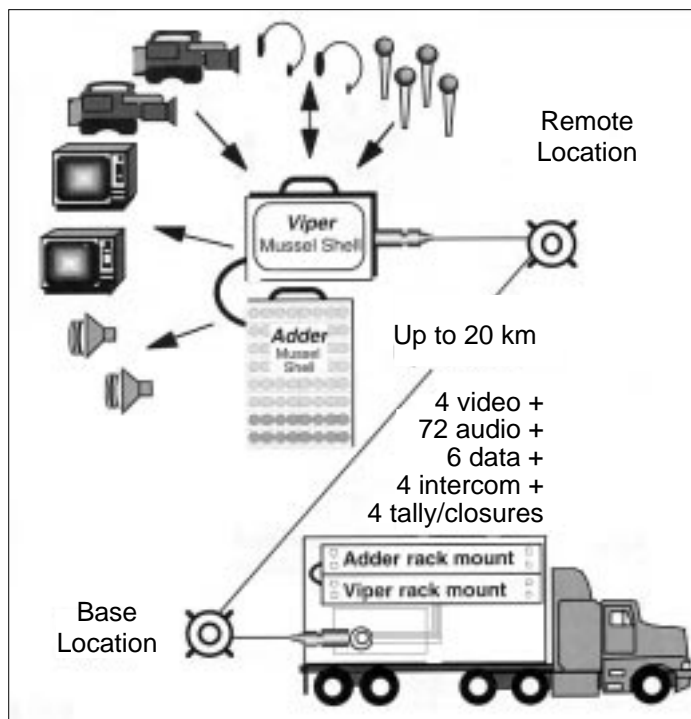

Figure 1. Portable Application
The Viper can be used in conjunction with other Telecast products. Figure 1 illustrates a typical portable application. In the figure, the Viper is combined with the Telecast Adder for a high capacity, single cable announce booth connected to an outdoor broadcasting (OB) van at the base location. This configuration supplies 4 video connections and 72 audio connections.